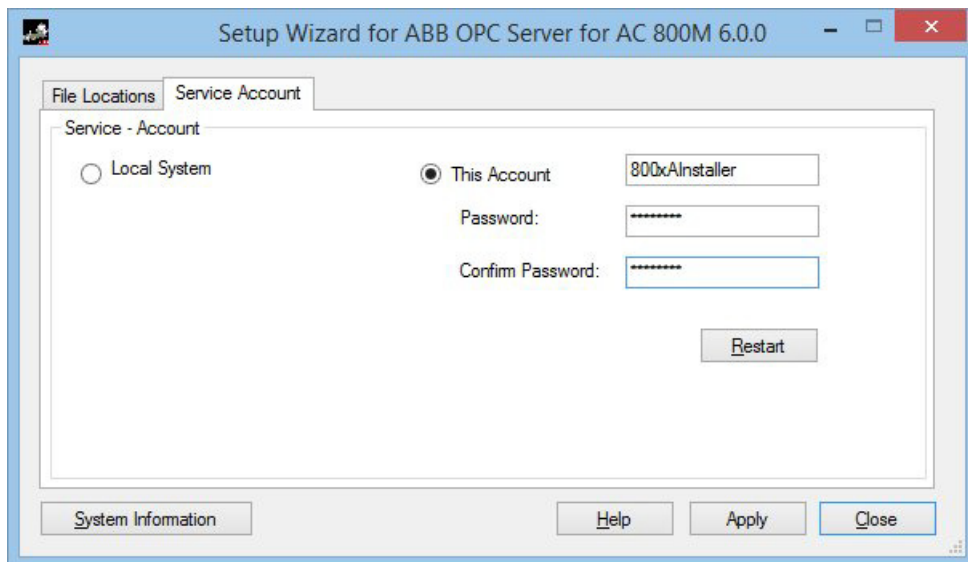

Figure 78. The Service Account topic for OPC server showing the current login name
- If *Local System Account* (see Figure 78) has been selected previously in the Setup Wizard, only members of MyTeam group should login to the PC machine, or the OPC Server is interrupted.
- If *This Account* (see Figure 78) has been selected previously in the Setup Wizard, any user including an operator can login to the PC machine without interrupting the OPC Server traffic.